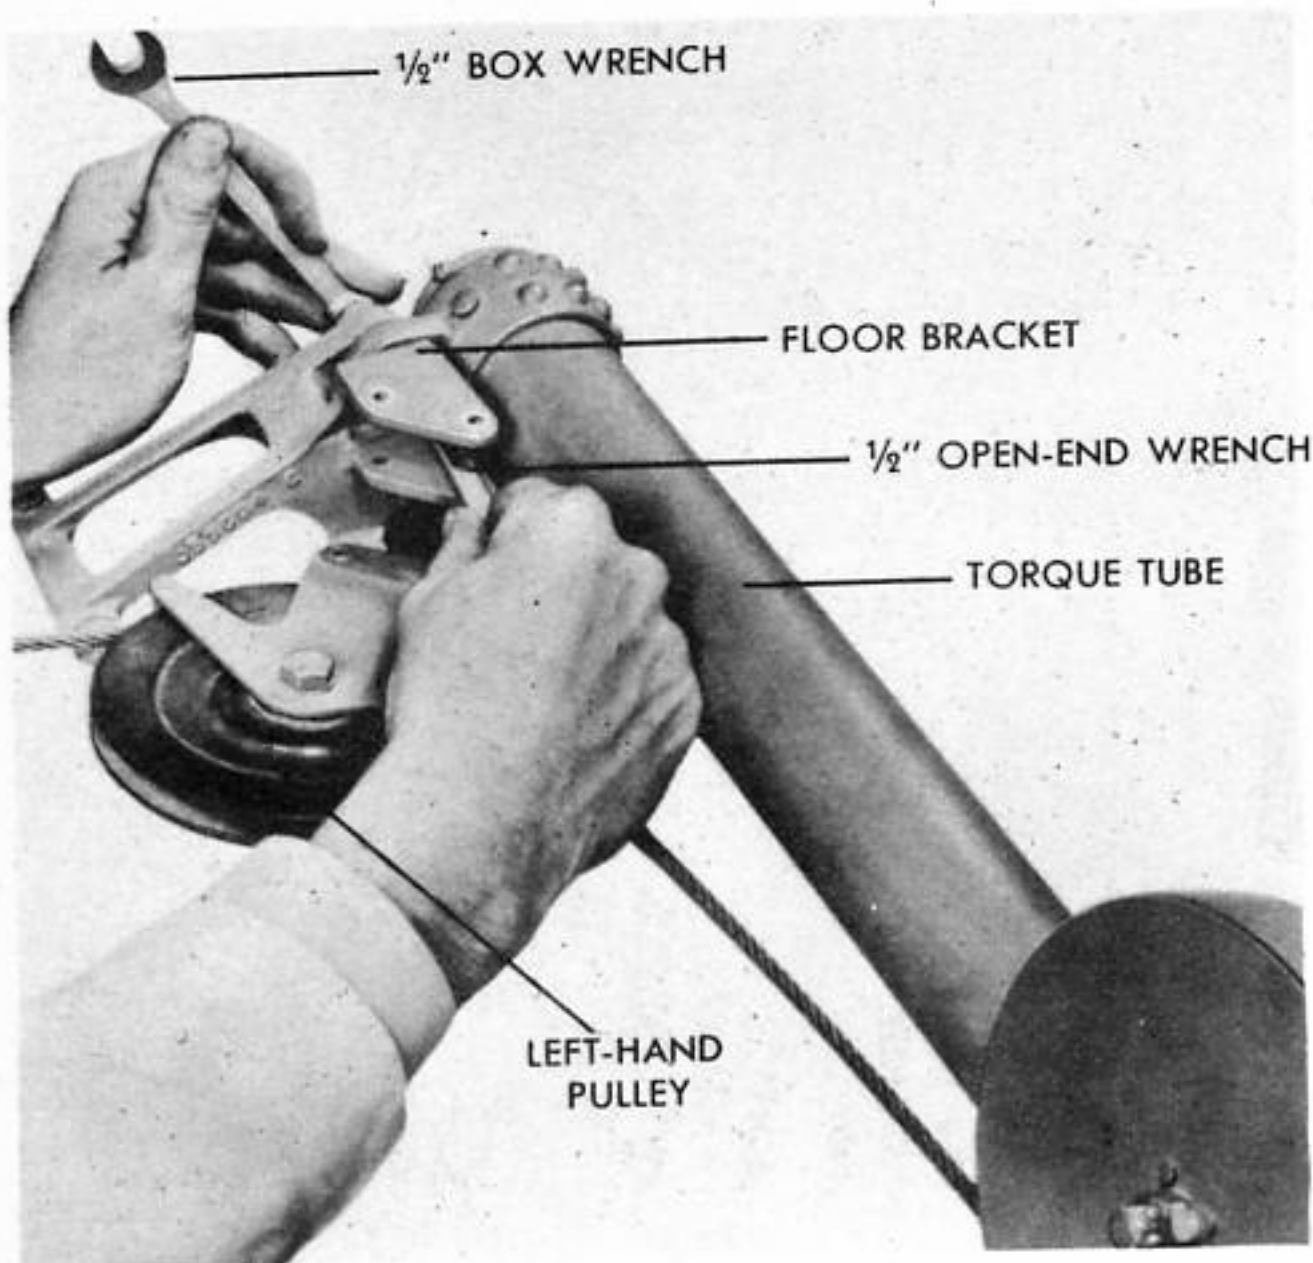

Figure 172 - REMOVING CONTROL COLUMN
(1) REMOVAL OF CONTROL COLUMN. (See figure 172.)
(See figure 172.)